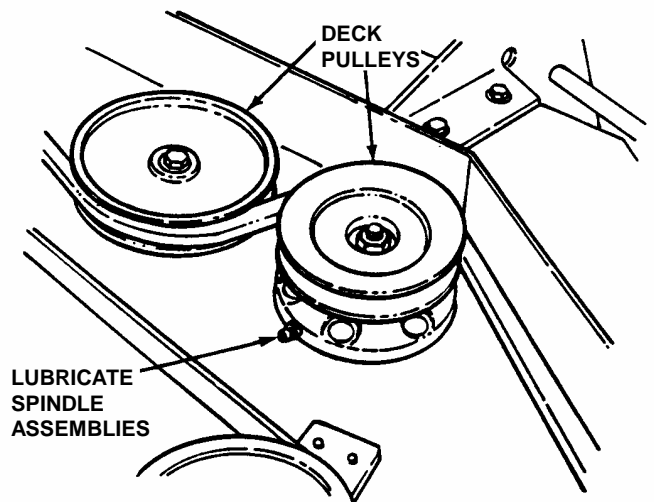

FIGURE 3.4
- Remove cover to gain access to lubrication fitting located on the top of deck below deck pulleys. Lubricate with Kendall NLGI No. 2 lithium grease or equivalent, from a grease gun until grease purges from vent located on spindle housing underneath deck. See Figure 3.4.